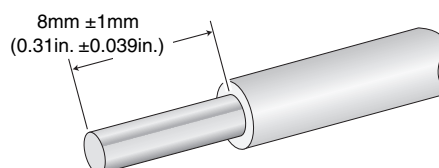

Figure 21. Stripped Wire
3. With a 14-gauge wire-stripping tool, strip the three wires in the tray cable coming from the DC input power source to 8 millimeters  $\pm$  1 millimeter (0.31 inches  $\pm$  0.039 inches), as shown in Figure 21.